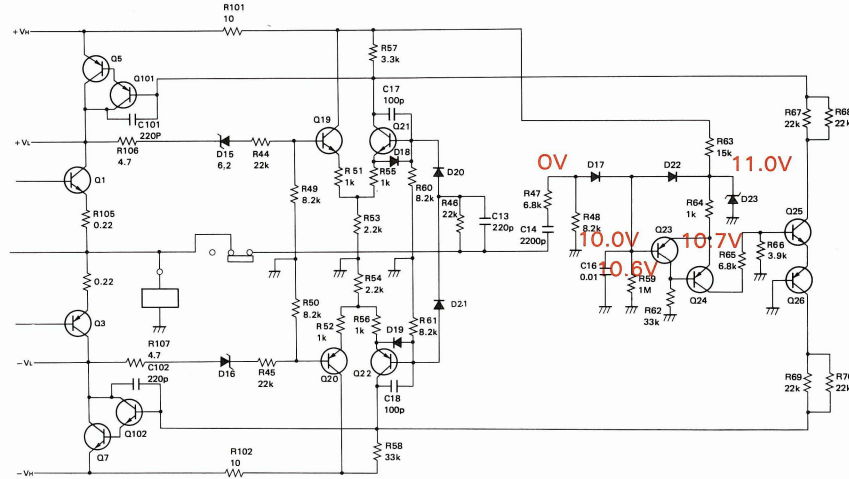
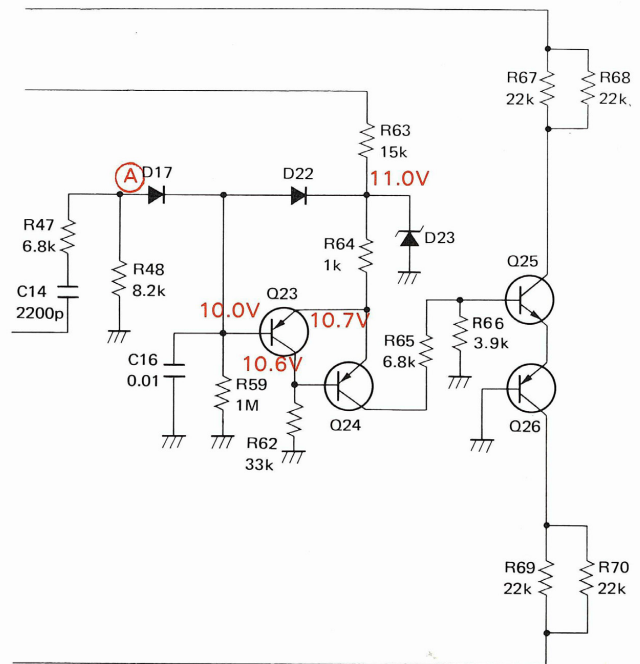
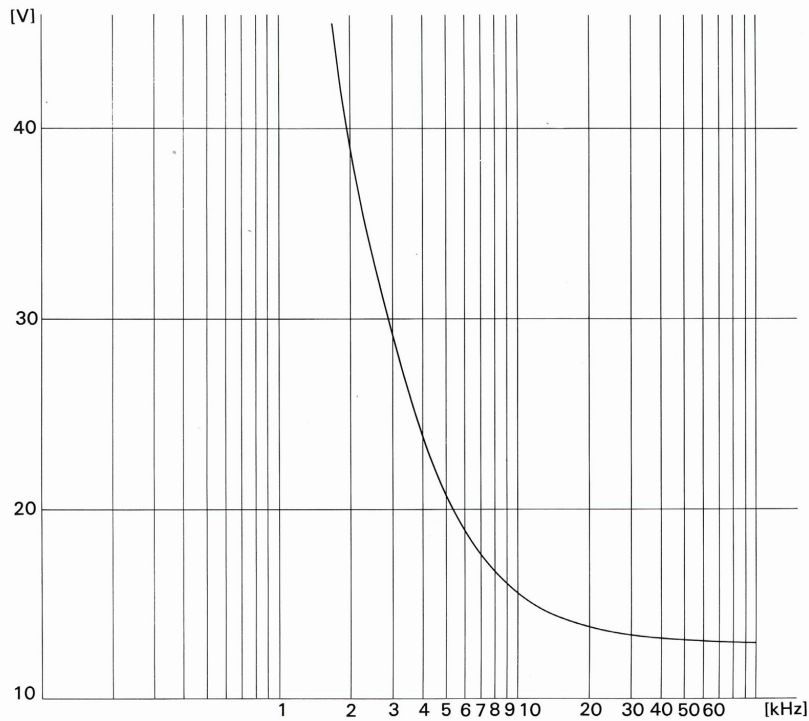

Fig. 14 Dynamic power supply circuit of A-80
Fig. 17 HIGH-ON circuit
Fig. 18 Threshold level VS output frequency
With the voltage indicated in Fig. 14, Q23 in the HIGH-ON circuit is usually on, Q24, Q25 and Q26 are off. To activate this circuit, a signal should be fed to Q23's base. Then, Q23 turns off, and Q24, Q25, Q26, Q5 and Q101 turn on. To turn Q23 off and raise  $V_a$  to  $V_H$ , the potential at  $\textcircled{A}$  in Fig. 17 should be more than 10 V. When a 10kHz signal is put out, the combined impedance of C14 and R47 in the high pass filter is:
Then,  $V_a$  shifts to  $V_H$ . Fig. 18 shows the threshold level versus signal frequency of the circuit.
been indicated in Fig. 17. The potential at (C) drops gradually as shown in Fig. 18 with the help of the time constant of R59 and C16.  $V_H$  is maintained until C16 discharges and the potential at (C) becomes 9.46 V. Then, Q23 turns on. In this case, the period is 2.04 msec Fig. 19-b.